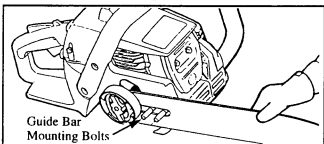

Figure 11
- Mount the guide bar with the slotted end over the bar studs. Figure 11.